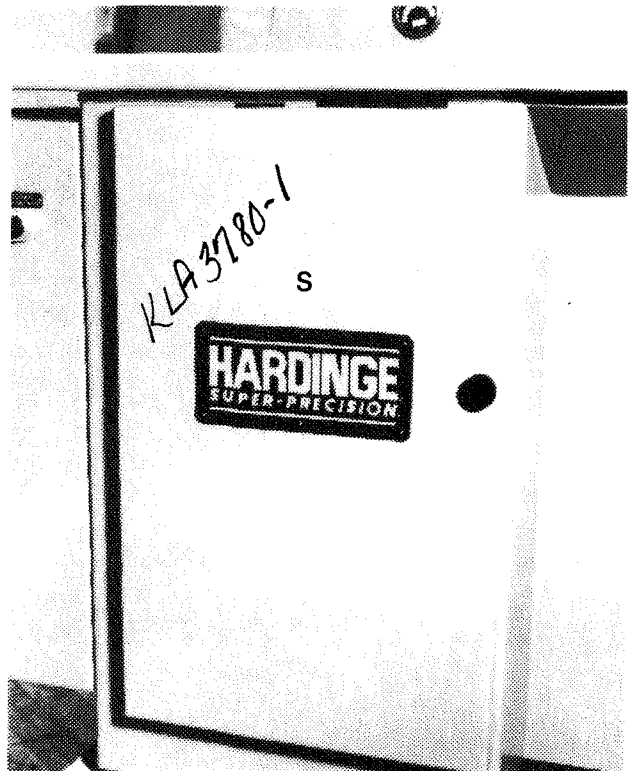

Figure 4.6 - Pedestal Door
8. Open door "S", Figure 4.6 .
25. Close door "S", Figure 4.6 .